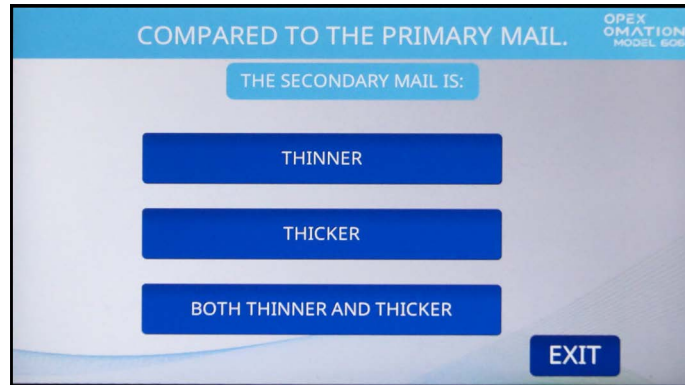

Figure 6-20: Thickness comparison screen
4. Choose when sorting by thickness, compared to the primary mail the secondary mail is (Figure 6-20):